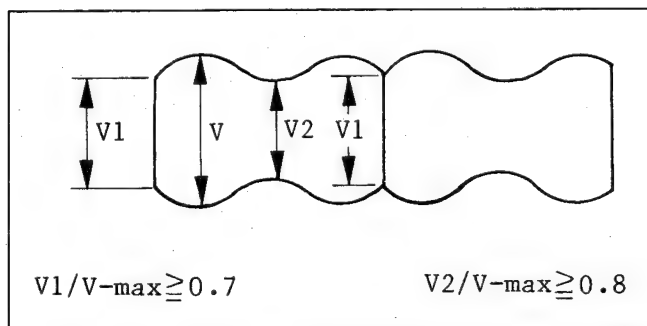

Fig. M37 Spec. of Envelope Figure-(1)
2. Playback the monoscope portion of the alignment tape, VFMS0001H6 and confirm that RF envelope appears as in Fig. M37.